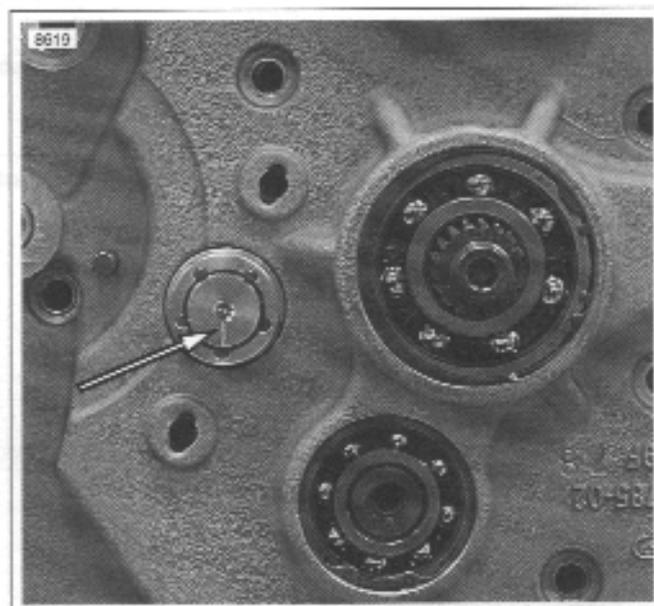

Figure 6-46. Scribed Line on Shifter Drum at 6 O'clock (Transmission In 4th Gear)
15. See Figure 6-46. Place transmission in 4th gear. The scribed line should now be at the 6 o'clock position.